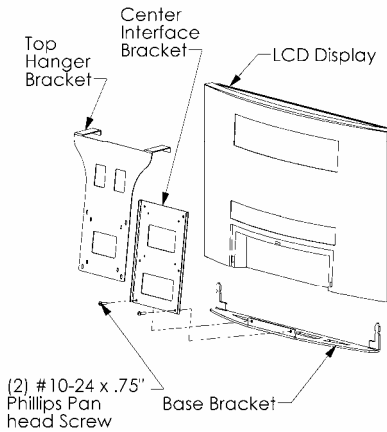

Figure 2
2. Assemble brackets and fasteners to display, as shown in figure 2 and 3.